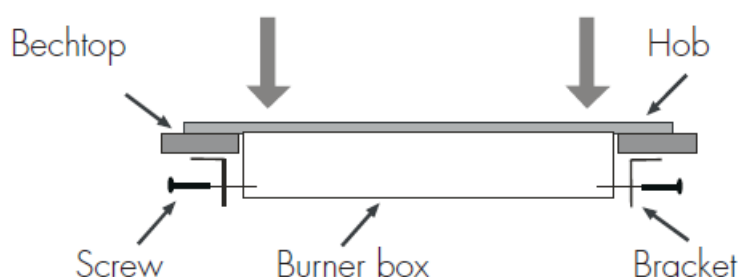

Fig. 2B
6. Retaining brackets – (Refer to Fig 2B)